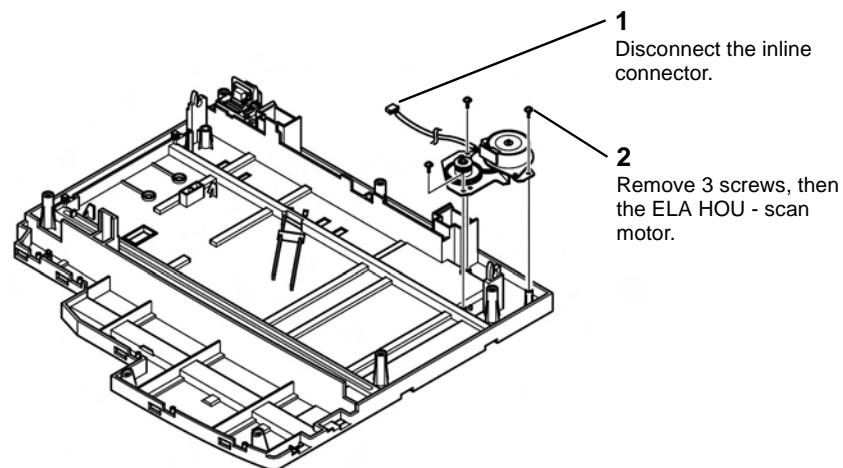

Figure 16 ELA HOU - scan motor removal
18. Remove the ELA HOU - scan motor, Figure 16.